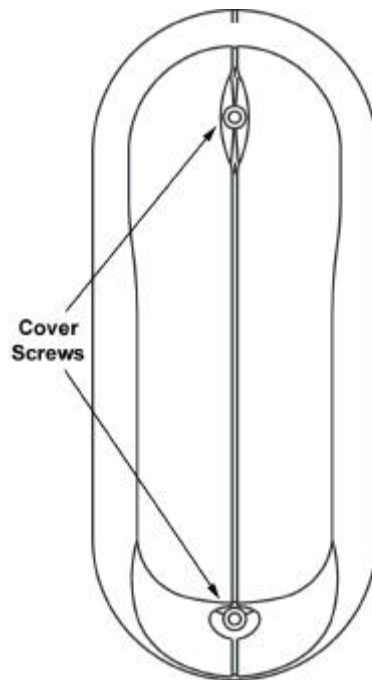

Figure 2-6 – Transceiver Cover Screws
- 2.6.1 If install, remove the Transceiver Cover by removing the two secure Torx Reader Cover Mounting Cover Screws (6-23 x 3/8") (Figure 2-6).